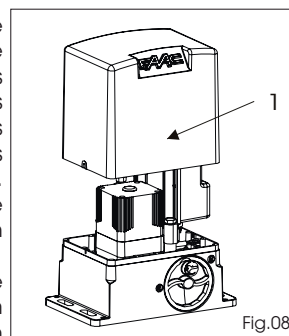

Fig.08
- 1- Remove the cover, Fig. 08 ref. 1.